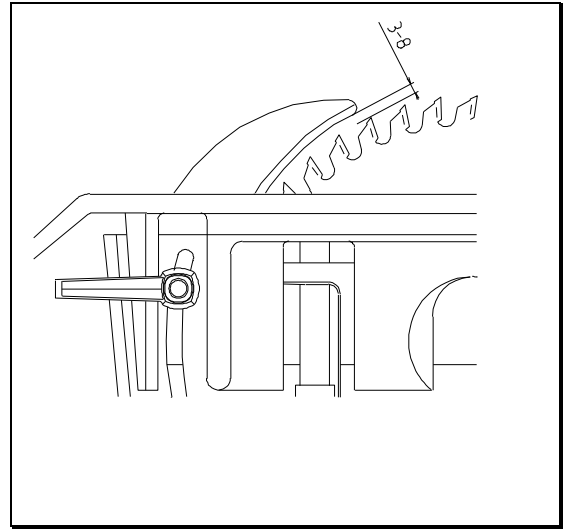

Figure 19
- 2 During cutting the riving knife has to be in the most forward position (Figure 19). Only for drop-in cuts the riving knife can be pulled back. Put the riving knife back in most forward position afterwards.